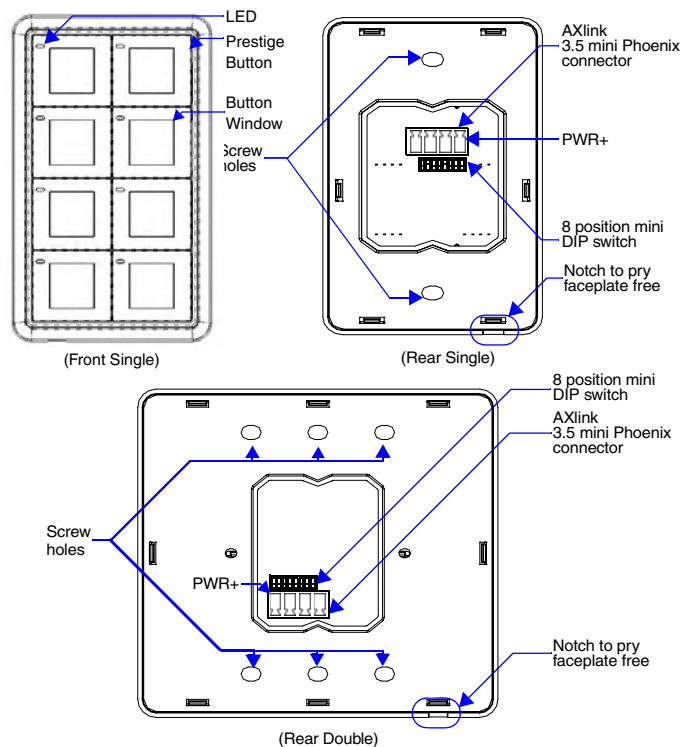

FIG. 2 Mio Modero Front and Rear Components
4. Connect the AXlink power supply. The connector passes through the center of the mounting frame and connects to the board. The connection is illustrated in FIG. 2.
5. Connect the AXlink power supply. The connector passes through the center of the mounting frame and connects to the board. The connection is illustrated in FIG. 2.